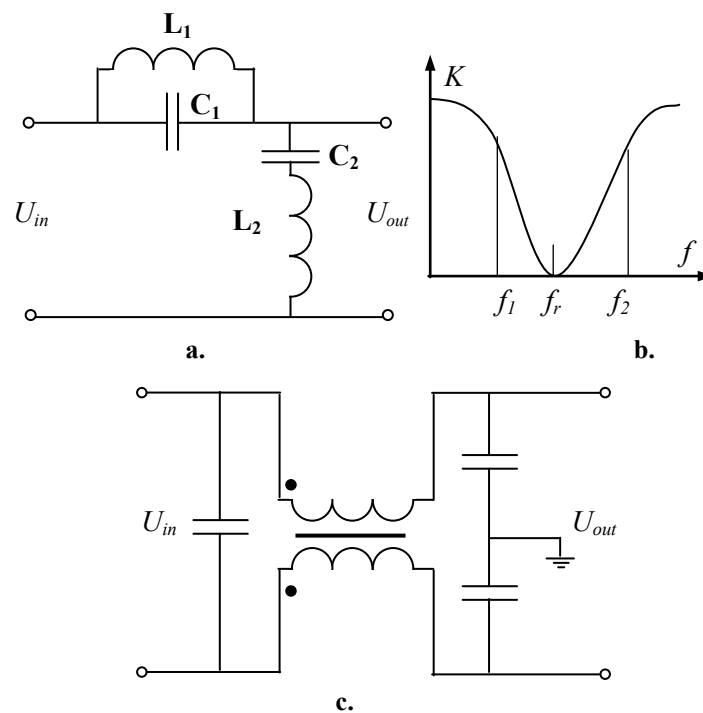

Fig. 2.30
**Passive band-stop filter.** A *band-stop filter*, also known as a *notch filter* is presented in Fig. 2.30,a. It is a circuit with almost zero output at the particular frequency and passing the signals, the frequencies of which are lower or higher than the cutoff frequencies (Fig. 2.30,b). The resonant frequency of the filter and selectivity  $Q$  are the same as for the band-pass filter. The cutoff frequencies are given by